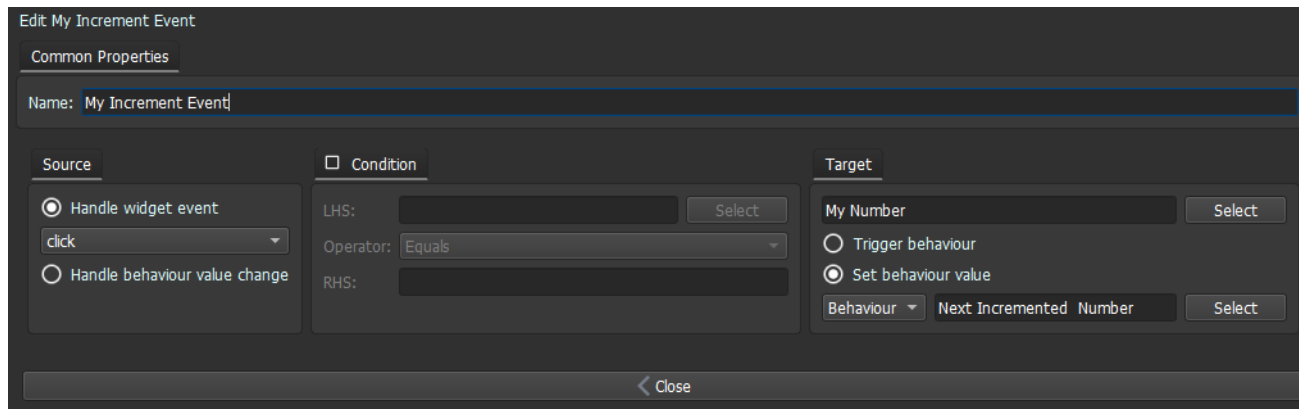

Fig. 7-33: Event Binding Properties
- 8 Configure the Event Binding to set the value of 'My Number' to the value of 'Next Incremented Number' when the button is clicked. See Figure 7-33.